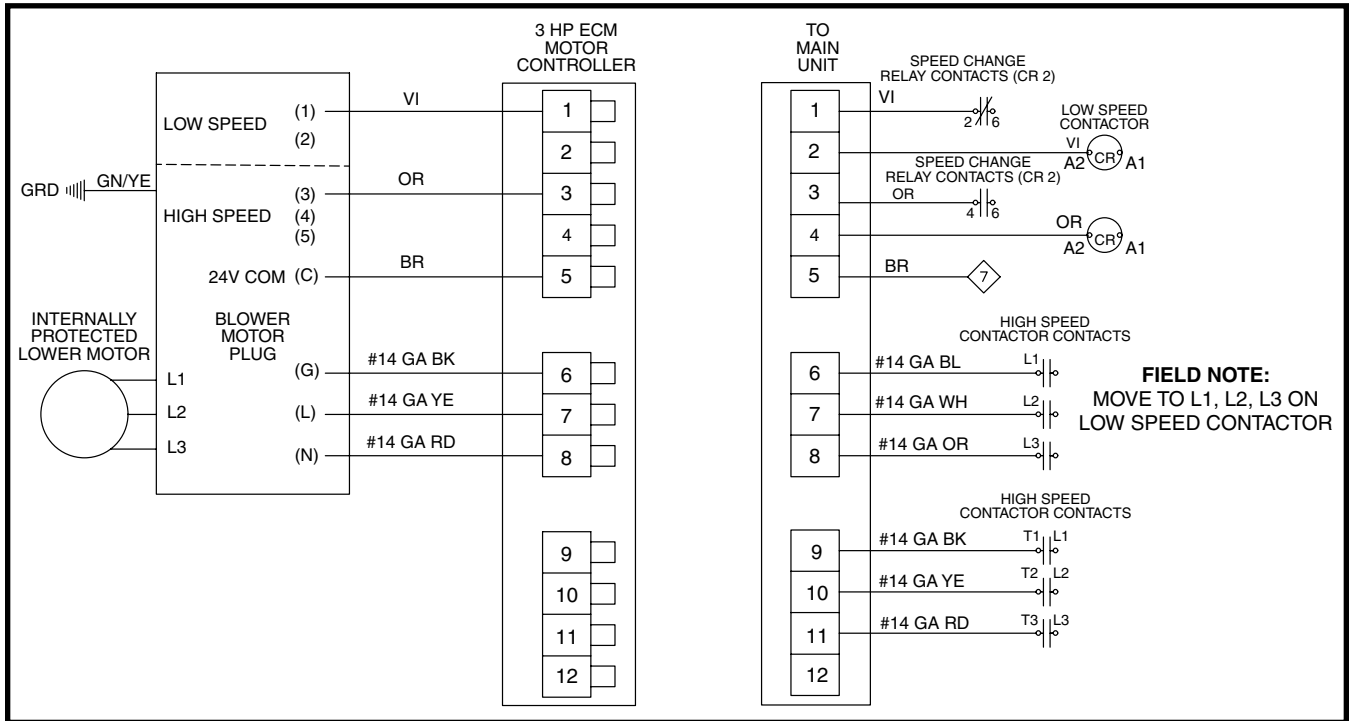
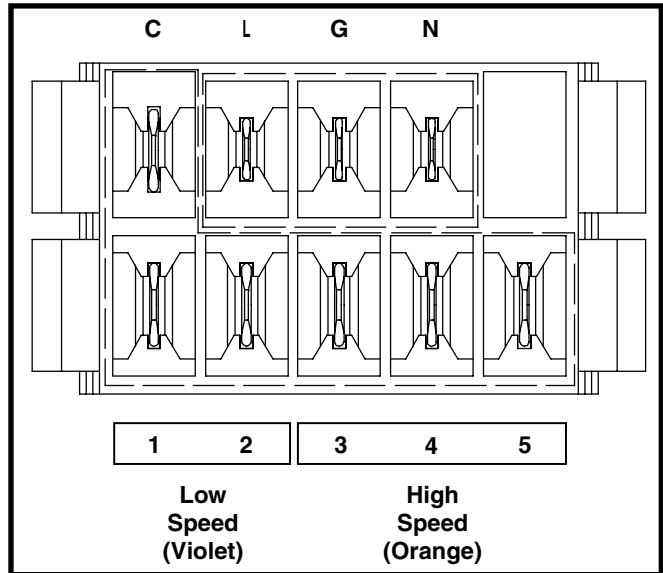

Figure 2. 3 HP ECM Motor Field Connection
Figure 4. Motor Controller 10 Pin Plug
See Figure 4 \(page 5\)
12. Locate the factory Low Speed- 3 Pole contactor in the unit main control panel. Remove the Blue, White, and Orange wires from T1, T2, and T3 and relocate to L1, L2, and L3 on the contactor respectively, so the motor has continuous power once power is restored to the unit. See Figure 2 \(page 4\).
#### If motor speed changes are required (See also Figure 2 and Figure 4):